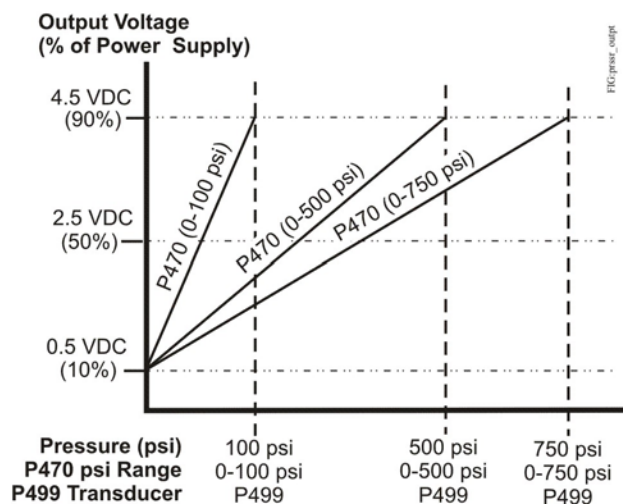

Figure 11: Pressure vs. Output Voltage
- c. The transducer output signal voltage (**V_O**) increases proportionally with an increase in the pressure at the transducer (**psi_T**). Use the graph in Figure 11 to compare the measured signal voltage to the measured pressure or use the formula below to compare the voltage and pressure values.